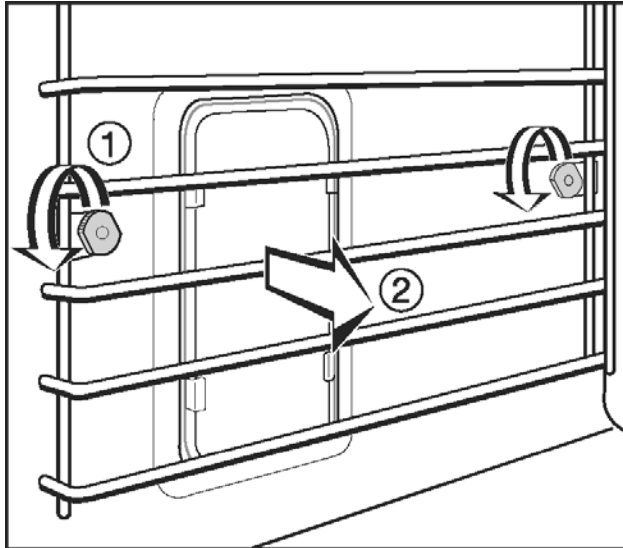

Figure 5-2: Removing The Runners From The Oven Cavity.
1. Turn the two thumbscrews, (Figure 5-2) counterclockwise and remove.
2. Pull the runners away from the oven wall to remove. (Figure 5-2)